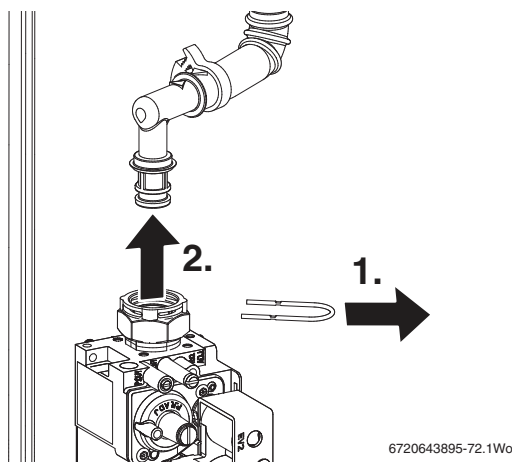

Fig. 96 Gas valve upper connection
Refer to figure 96
- ▶ Remove wire clip from gas valve outlet then pull the gas pipe free from gas valve (see figure 96).